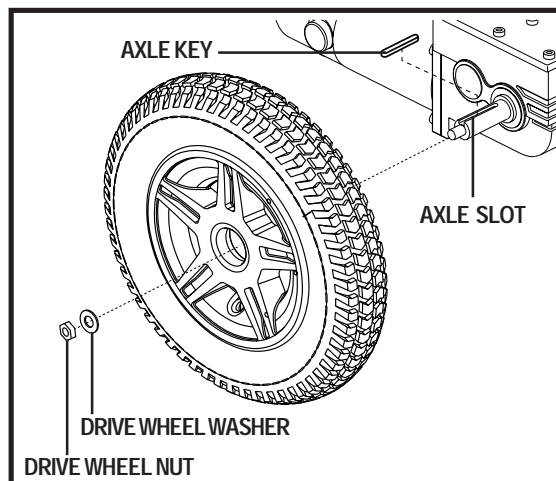

Figure 20. Jazzy 600 Drive Wheel
4. Remove the drive wheel nut and washer from the axle. See figure 20.